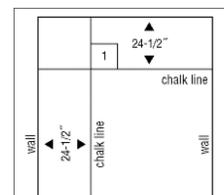

Figure 7
- PROPER PLACEMENT OF THE FIRST FLOOR TILE IS THE KEY TO THE ENTIRE INSTALLATION. Carefully place a 12" x 12" (30.5 cm x 30.5 cm) parquet tile at the intersection of the two chalk lines (Figure 7). Do not use the edge of the tongue for aligning the tile on the chalk lines.